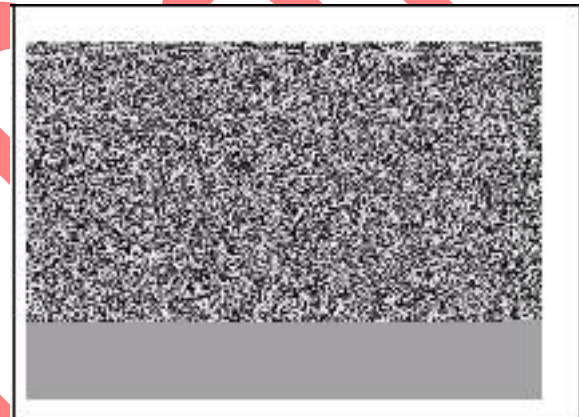

Fig. 140
If separated, place the throttle return spring ([A] Fig. 140) inside the large foam seal (B).
Slide the seal and spring on to the choke shaft (C) with the top of the spring (D) contacting the choke shaft lever ([E] Fig. 140).
Turn the choke shaft ccw while gently pushing it into the carburetor body until the bottom end of the spring (A) rests on the back of the spring perch ([F] Fig. 140).